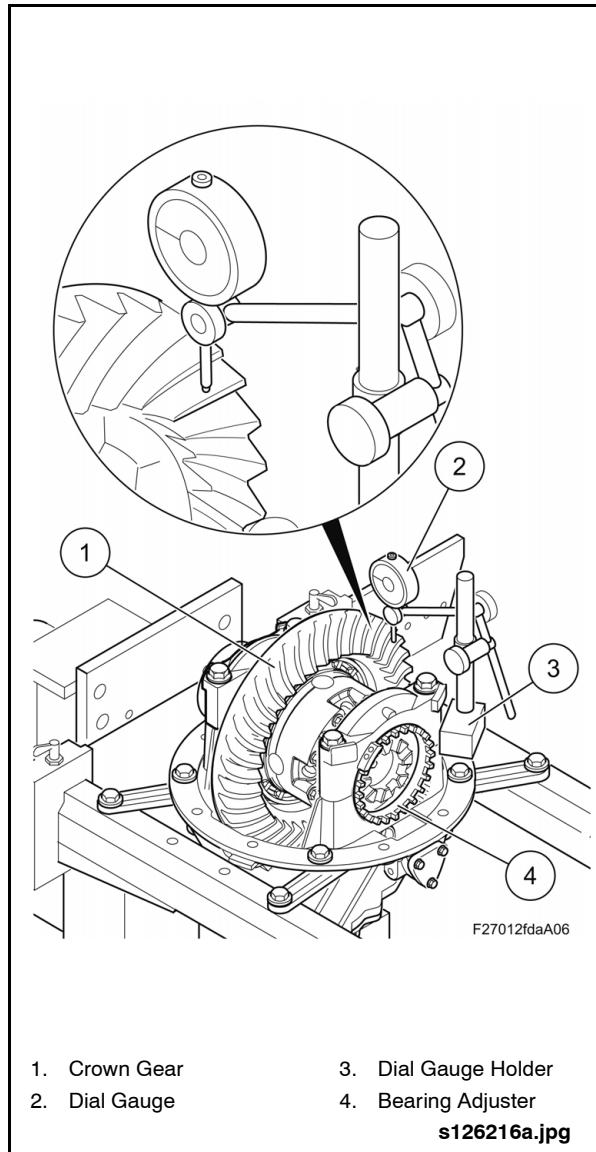

Fig. 2-70: Backlash Adjustment
2. Place the Dial Gauge Holder with Dial Gauge (Items 45 & 44 from Special Tools List) on the drive axle housing. See "Fig. 2-70: Backlash Adjustment" on page 58.